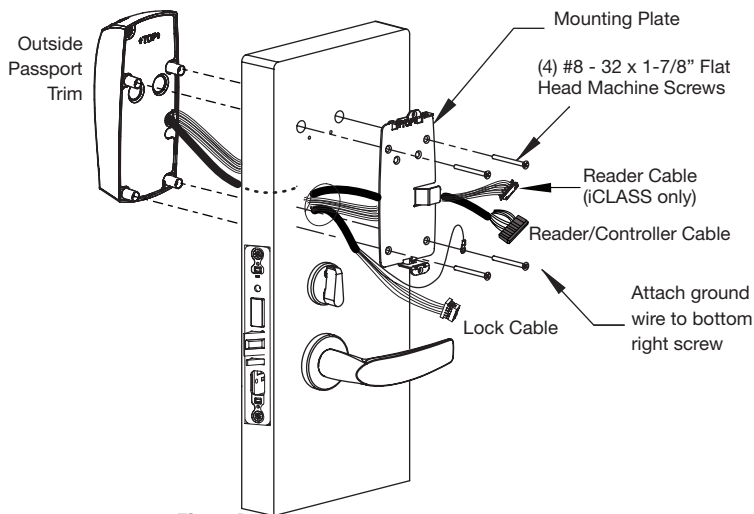

Fig. 8A
Note: Feed controller and keypad cables feed through side opening (Fig. 8A).
Cable and ground ring terminal from lockbody feeds from bottom (Fig. 8A and 8B).
3. Attach ground ring terminal lock body to bottom right corner using one #8-32 x 1-7/8" flat head machine screw. Make sure it is positioned upright (Fig. 8A).